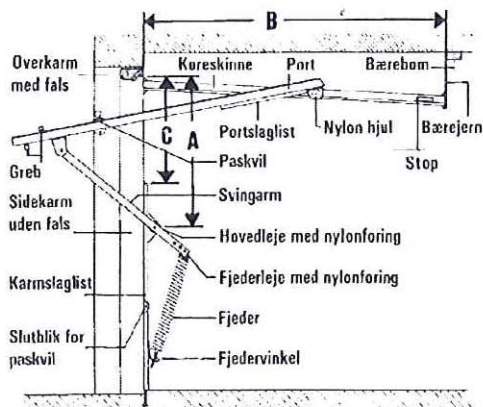

FIG. 1
3. KARMLISTERNE FASTGØRES PÅ KARMENS INDVENDIGE SIDE. SE FIG. 1 - 2 & SKEMA.
4. HOVEDLEJET MONTERES PÅ KARM OG PORTVINKLEN MONTERES PÅ PORTEN. SE FIG. 1 - 2 & SKEMA. NB. UDMÅLINGEN SKAL VÆRE NØJAGTIG I BEGGE SIDER OG ARMENE SKAL STÅ LODRETTE. HOVEDLEJEBOLTEN BØR EFTERSPÆNDES EFTER 3-4 MÅNEDER. TILSPÆNDINGSMOMENT 130 Nm
5. KØRESKINNERNE SKRUES PÅ KARM. SE FIG. 4. HÆLDNING BAGUD CA. 8 CM BÆREJERNENE MONTERES PÅ KØRESKINNERNE OG STROPPERNE FASTGØRES TIL LOFT. SE FIG. 1.
9. PORTENS STOPKLODS PLACERES I SKINNE. SE FIG. 1. SÅLEDES AT SVINGARMENE ER LIDT FORBI LODRET STILLING. OM NØDVENDIGT MONTERES EN GUMMIDÆMPER PÅ KLODSEN.